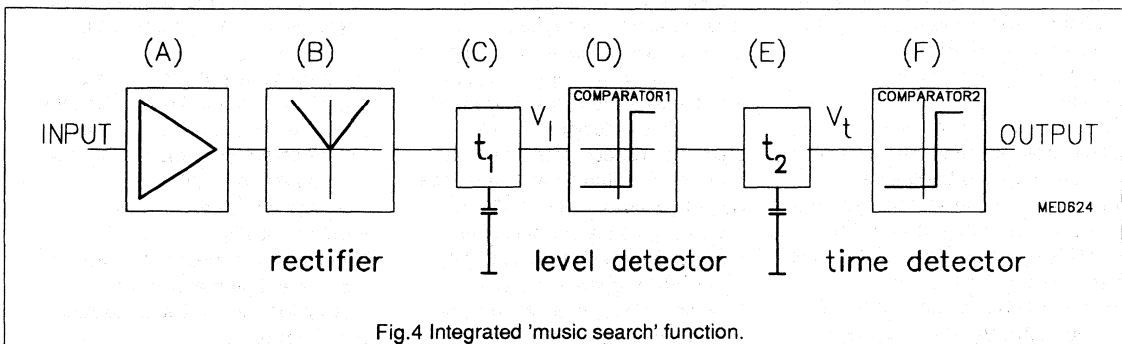

Fig.4 Integrated 'music search' function.
A system for 'music search' mainly consists of a level- and a time detection (see Fig.4). For adapting and decoupling the input signal will be amplified (A), then rectified (B) and smoothed with a time constant (C). So the voltage at (C) corresponds to the signal level and will be compared to the predefined pause level at the first